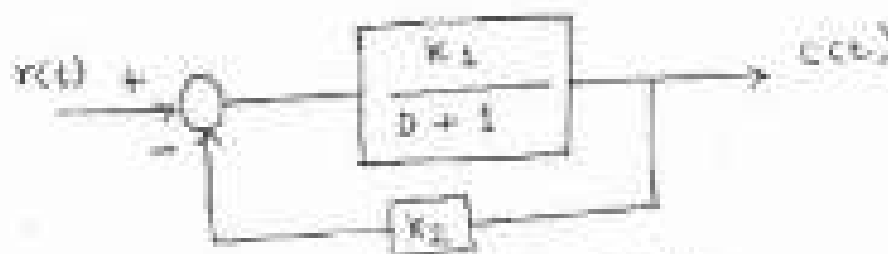

Figure 3-b
- b) For the system shown in figure 3 b, determine  $K_1$  and  $K_2$  so that the system will have a steady state gain of 1 and a time constant of 0.5 sec. [8]